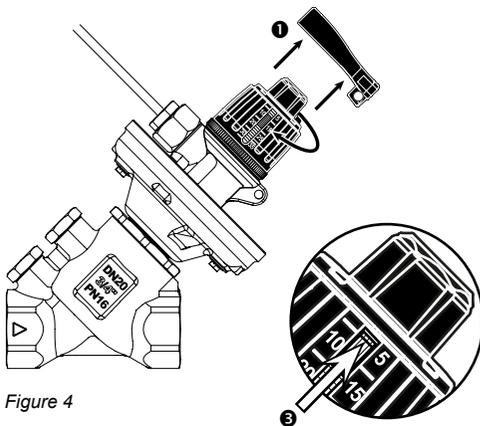

Figure 4
To change the setting, please remove the black lock ring (❶) and turn the black top part by hand (❷) as shown in figure 4 (do not use more than 1 Nm force). Turn the black top part clockwise to increase and counter-clockwise to decrease the setting. The setting can be seen directly on the valve because the scale is printed on the top part (which is turned) and the setting is defined by the groove in the brass part inside the top part ❸.